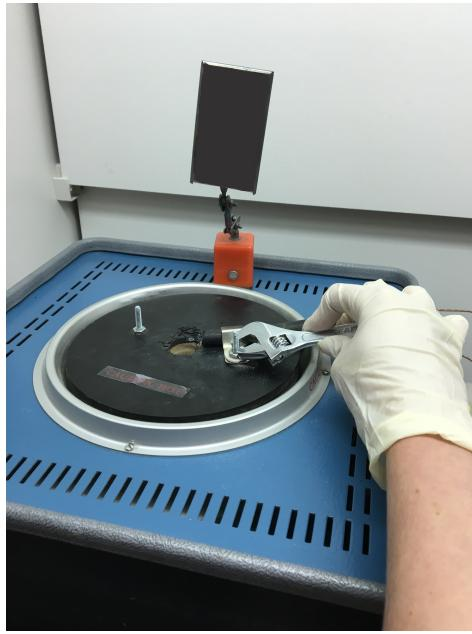

Figure 18: Position thermocouple 4 with the rubber hose and tighten
- * Tighten the nut on the bracket hand tight and then give a half turn with a wrench to secure the nut (See Figure 18)